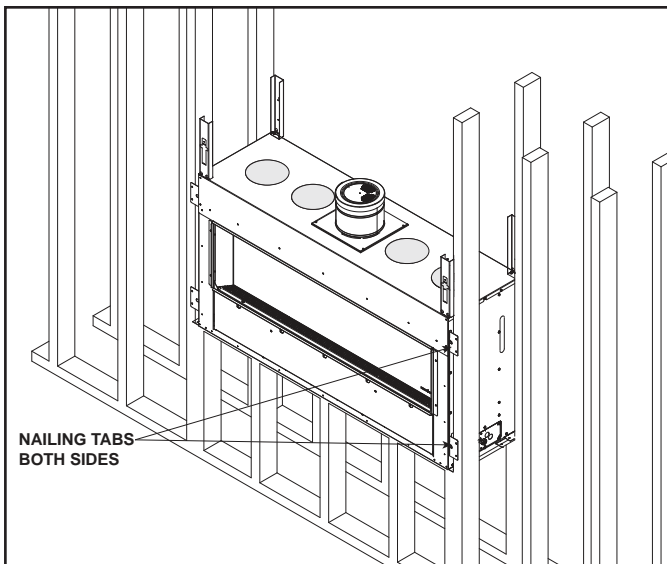

Figure 6.4 Nailing Tab Locations
- Keep nailing tabs flush with the framing. See Figure 6.4.